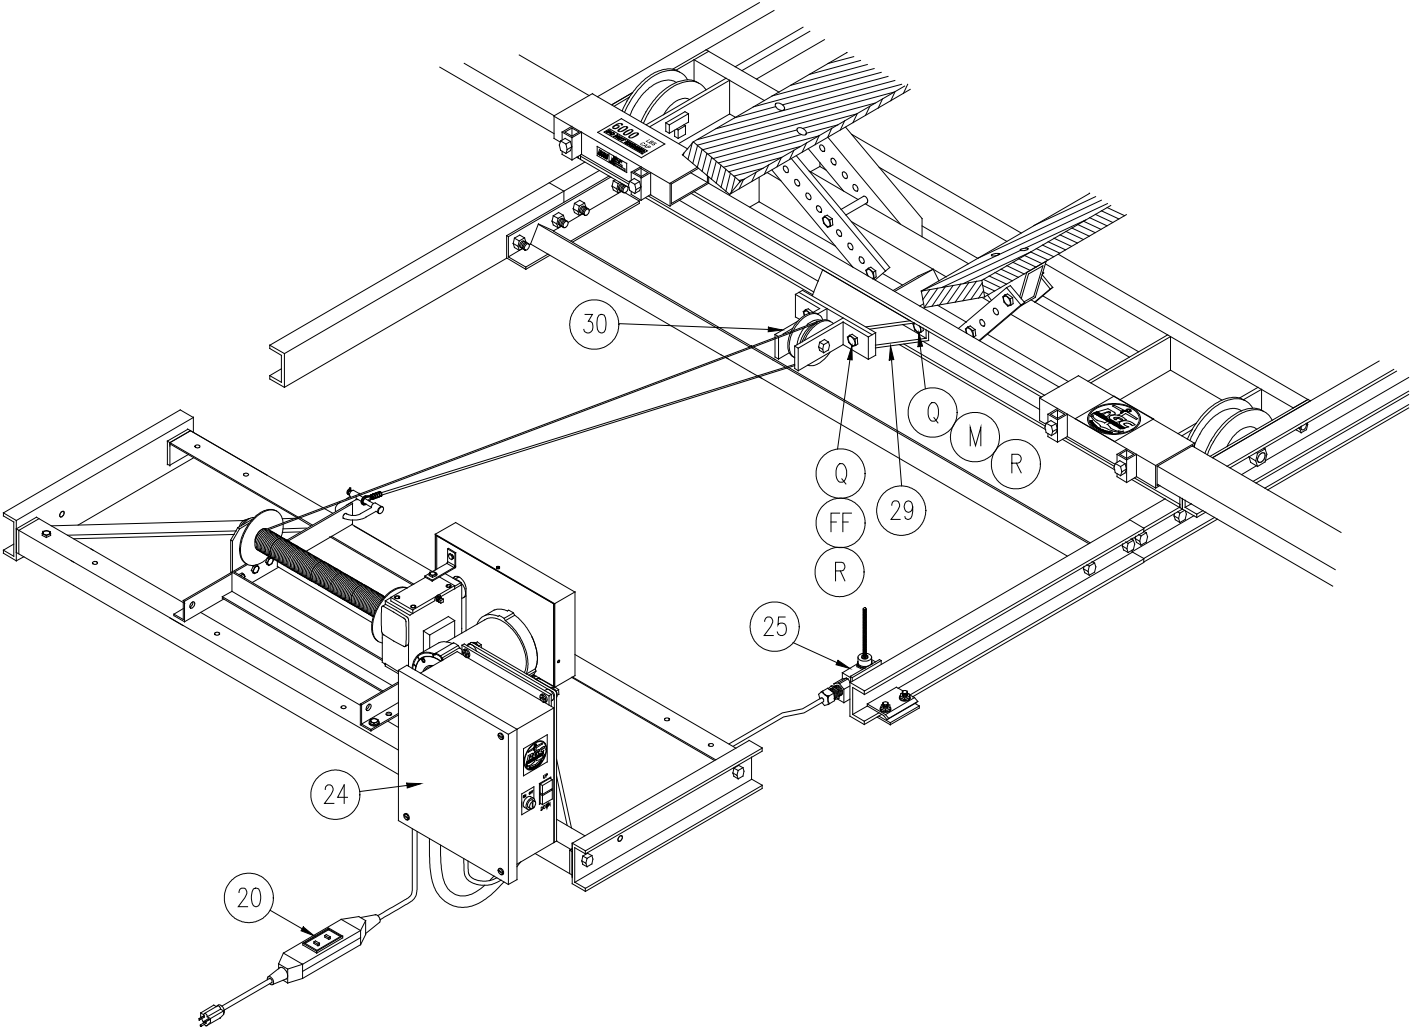
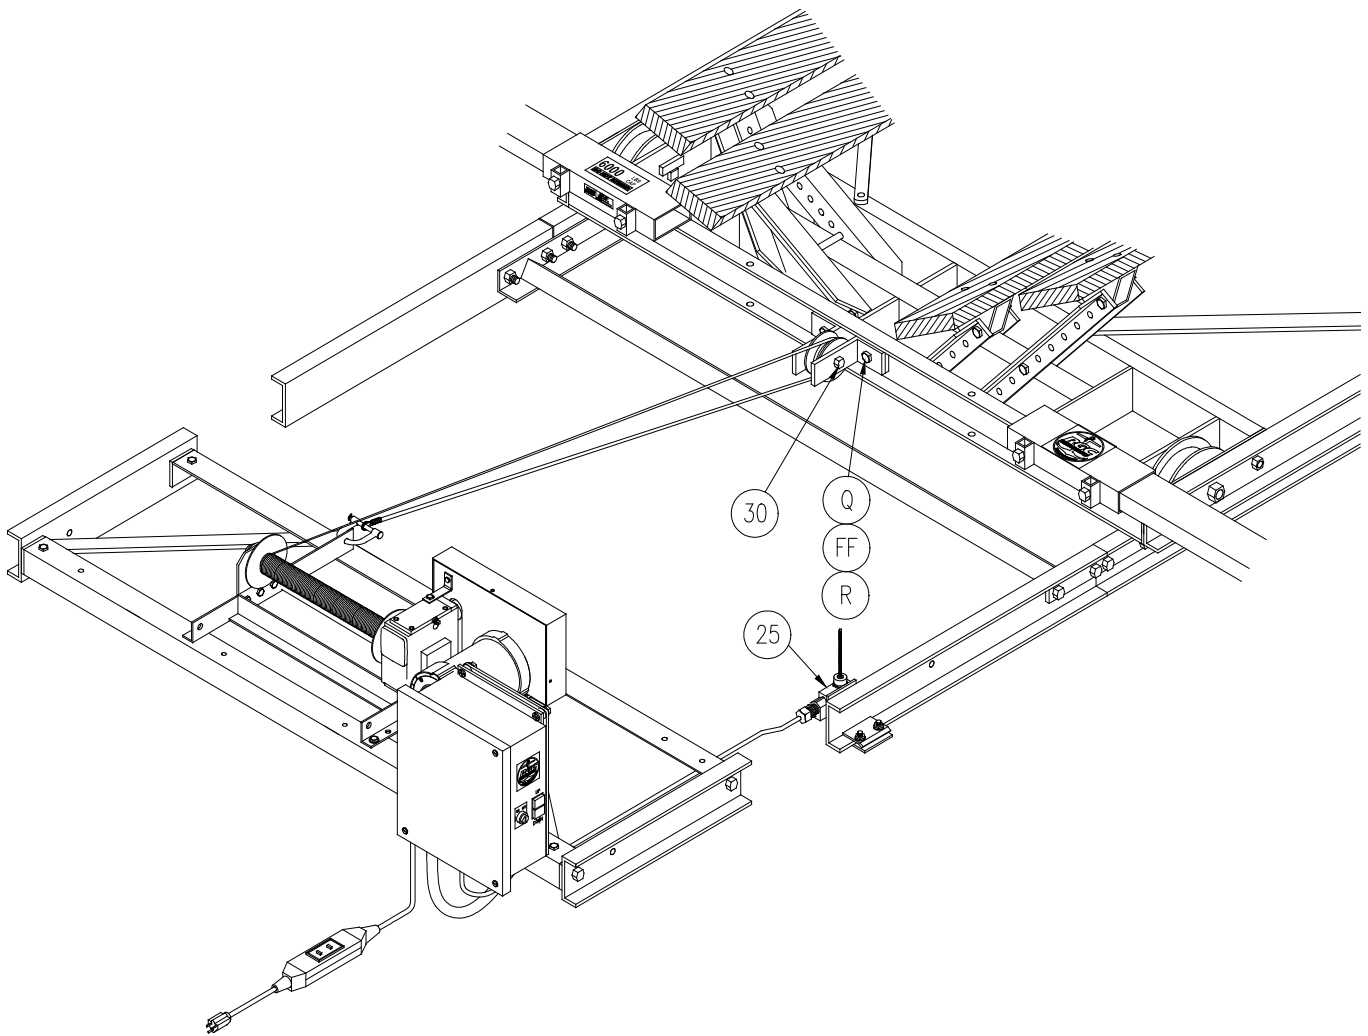

Figure 3-5
Figure 3-6
1. **Refer to Figures 3-5 and 3-6.** Fasten P/P sheave assembly (30) to carriage as shown, omitting AR/BR 4K adapter tube (29) when using an AR6K carriage (fig. 3-5 for AR4K and fig. 3-6 for AR6K).
2. Attach shackle (9) to power drive frame as shown. Do not fasten pin.